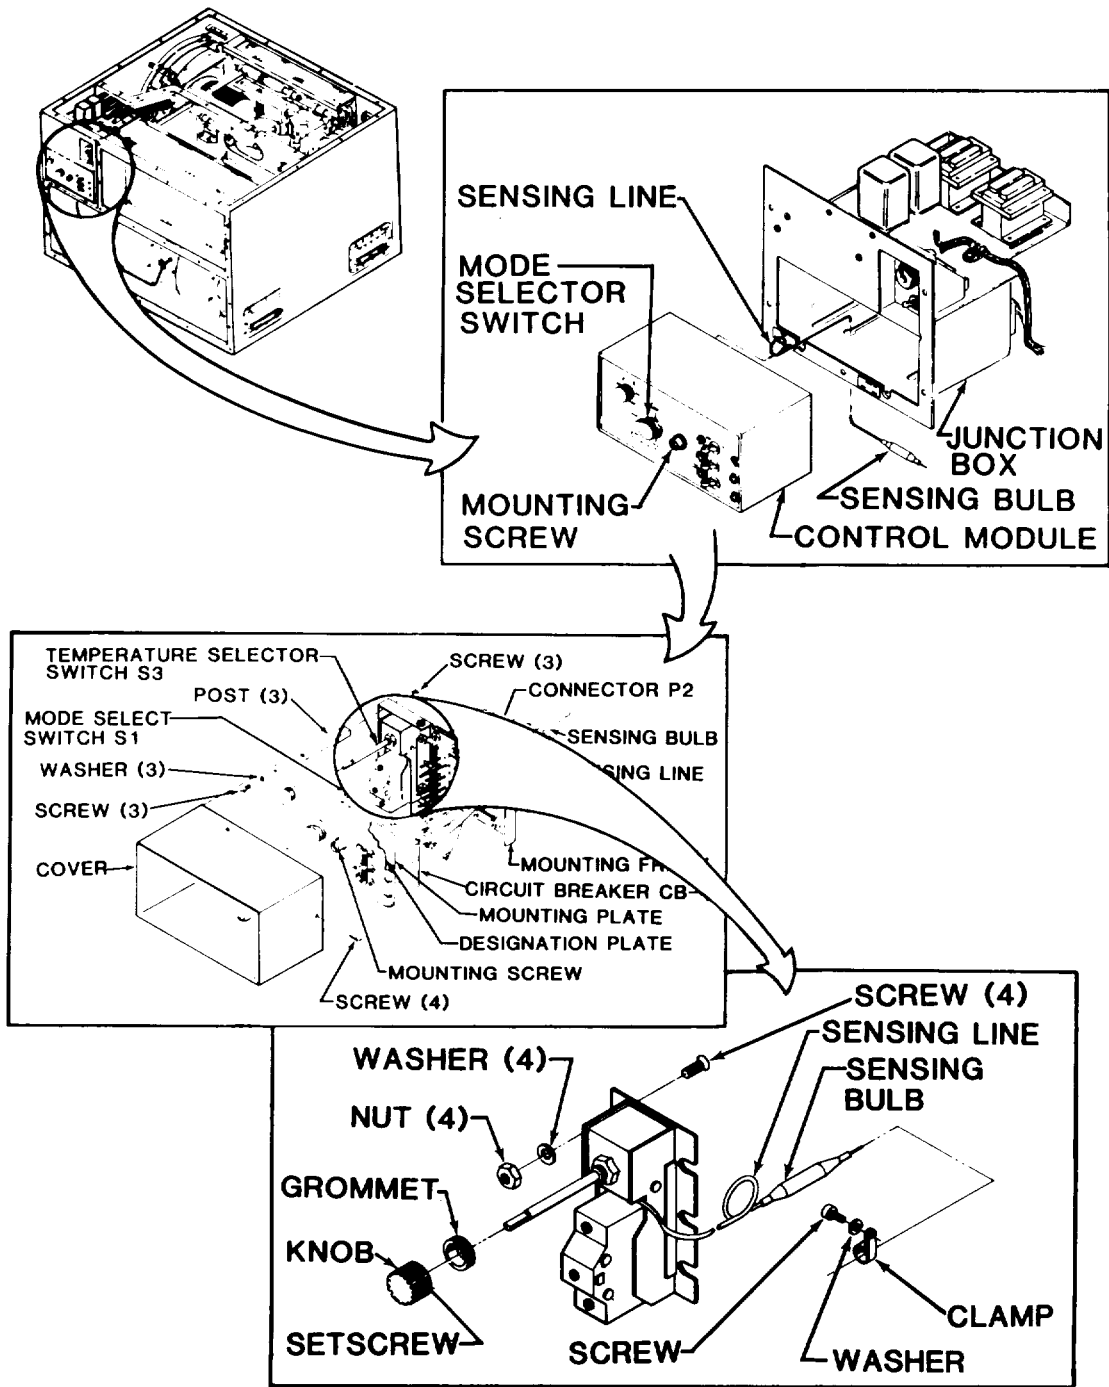

Figure 4-18. TEMPERATURE SELECTOR (Control Switch Thermostat) S3
The TEMPERATURE SELECTOR (Control Switch Thermostat) S3 is located in the control module. (See fig. 4-18.)
- (1) Disconnect power at power source.
- (2) See para 4-21a and remove control module.
- (3) See fig. 4-18 and remove four screws and pull cover off.
- (4) Loosen setscrew in TEMPERATURE SELECTOR knob. Remove knob.
- (5) Remove three screws from posts and slip mounting frame off.
- (6) Tag and disconnect wires from TEMPERATURE SELECTOR.
- (7) Remove four screws, washers, and nuts and pull TEMPERATURE SELECTOR from mounting frame.